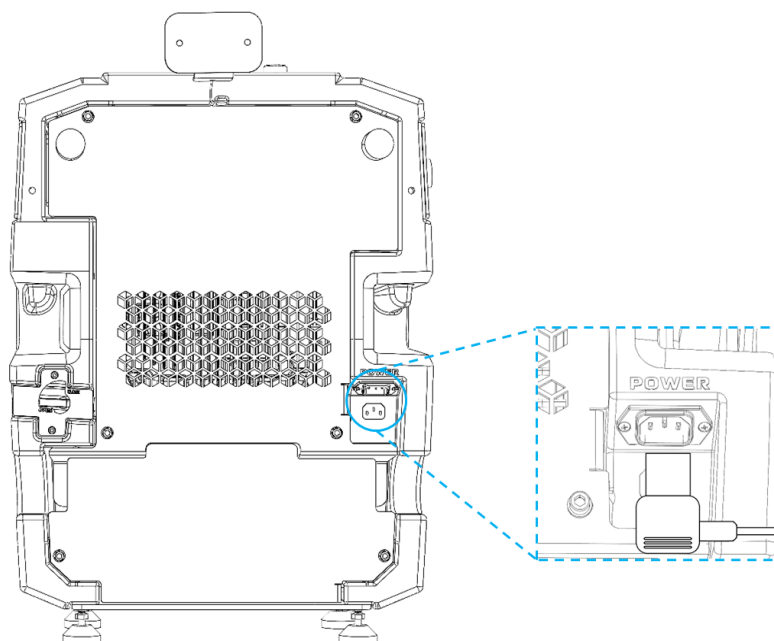

FIGURE 2-20
1. Connect the power cable to the Refuel Station power port (Fig. 2-20).